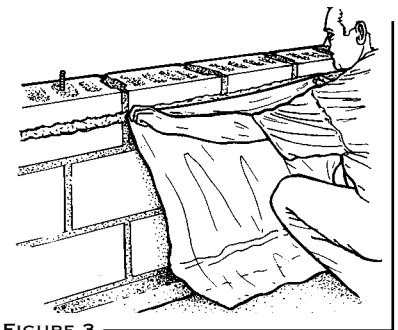

FIGURE 3
1. Attach a Type 1 Vapor Retarder such as a 6-mil poly liner to the interior stem wall with water-based adhesive mastic. The edges of the vapor retarder should extend at least 6 inches up the stem wall. Extend the wall poly liner onto the ground about 1 to 2 feet from the wall. (See Figure 3.)